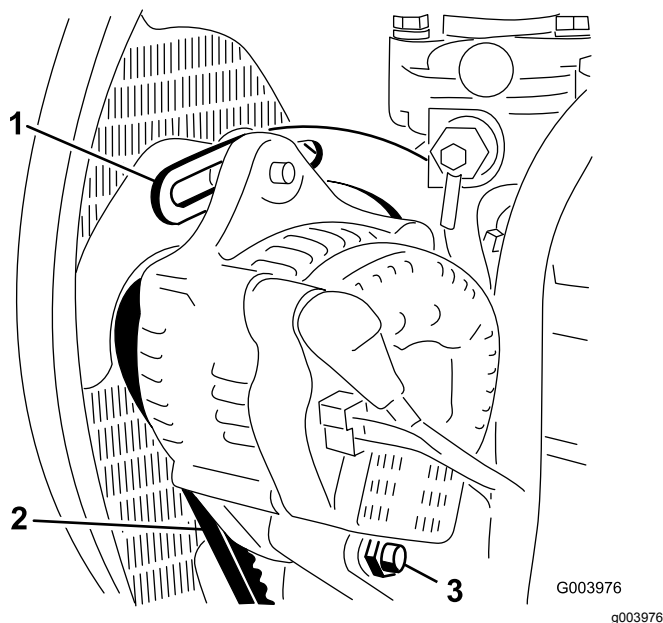

Figure 63
2. Check the tension of the alternator belt by pressing it (Figure 63) midway between the alternator and the crankshaft pulleys with 10 kg (22 lb) of force.
3. Loosen the bolt securing the brace to the engine (Figure 63), the bolt securing the alternator to the brace and the pivot bolt.